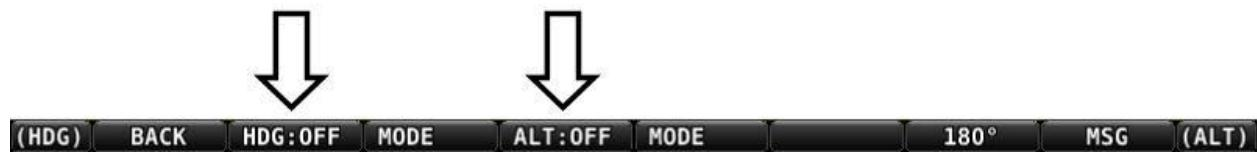

Figure 67—Disengage the Autopilot in the AP Menu
- Enter the AP Menu (MAIN MENU > AP MENU) and press buttons 2 and 4 until they are labeled with HDG:OFF (or TRK:OFF if in GPS ground track mode) and ALT:OFF to disengage the roll and pitch axes, respectively, as illustrated in Figure 67.